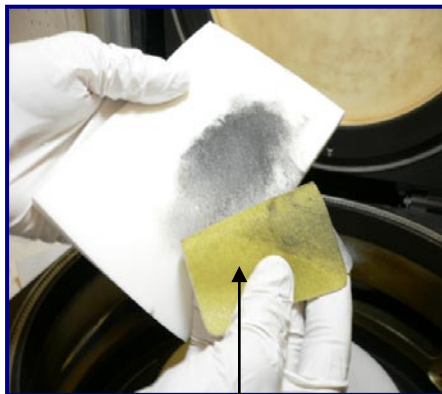

Fig 4: Loaded Diamond ScrubPAD
Step 7: To help unload ScrubPAD and UltraSOLV[®] Sponge of deposition continually return them back into container of DI water as necessary. It will also be effective to unload the ScrubPAD of deposition by pulling across the UltraSOLV[®] Sponge in one direction (See Fig 4, 5 & 6)